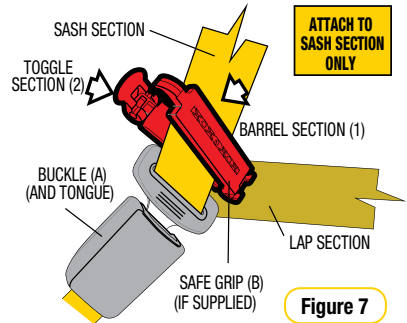

Figure 7
Step 5: Hook the attachment clip to the anchor fitting. Ensure there are no twists in the top tether strap (refer to Figure 7).